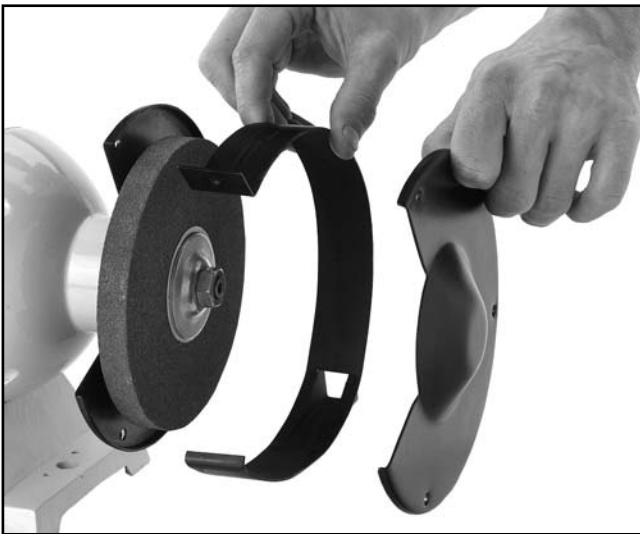

Figure 4. Wheel guard components.
2. Remove the outer guard and rim guard. See Figure 4.